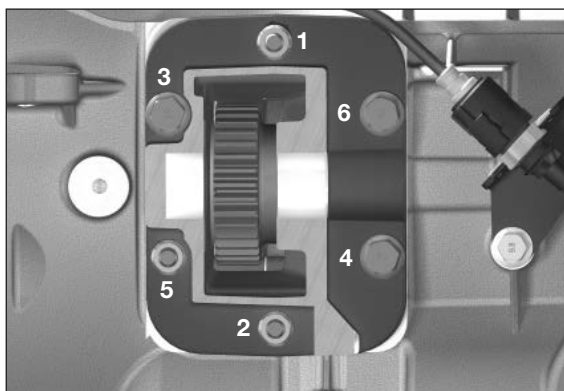

Figure 35
14. Torque all cap screws (**Fig. 35**) to 25 lb-ft [34 N-m] and torque the self-locking nuts to 35-40 lb-ft [48-54 N-m].
NOTE: Always torque fasteners in a crossing pattern (**Fig. 35**).